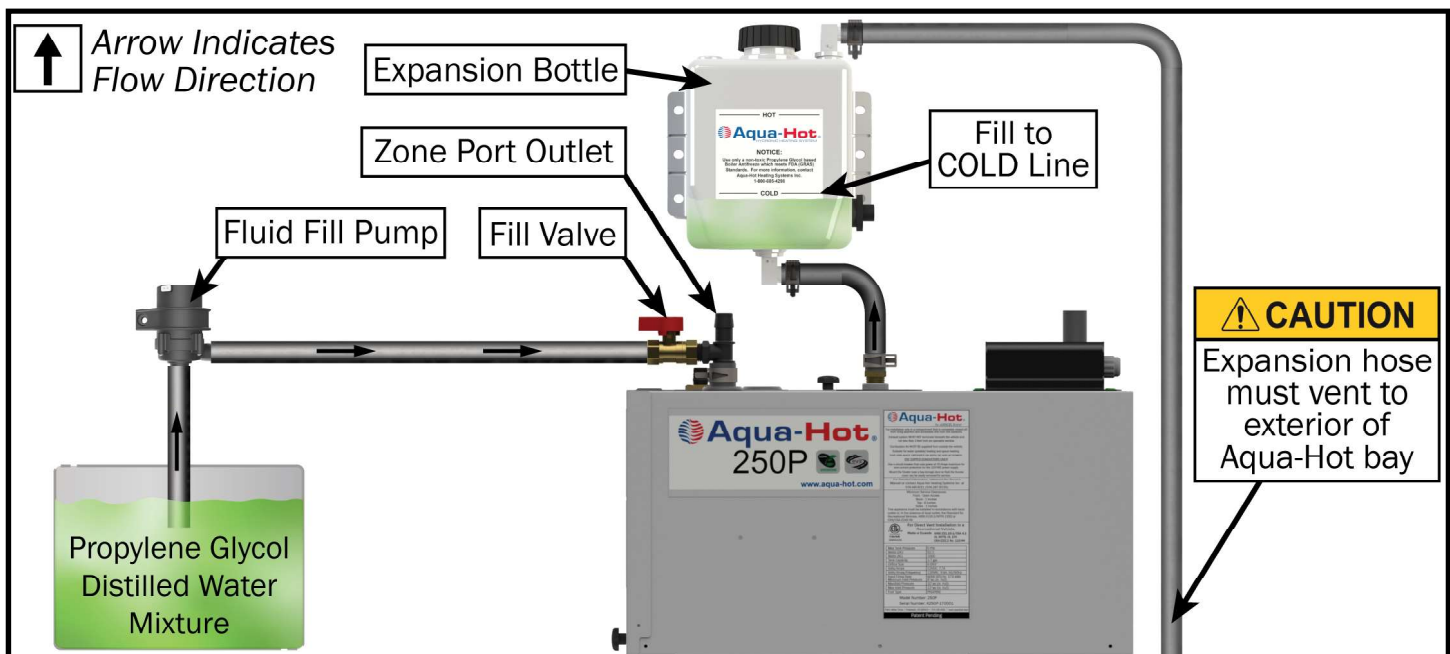

Figure 85
1. Locate the fill valve at the zone port outlet (Figure 85).